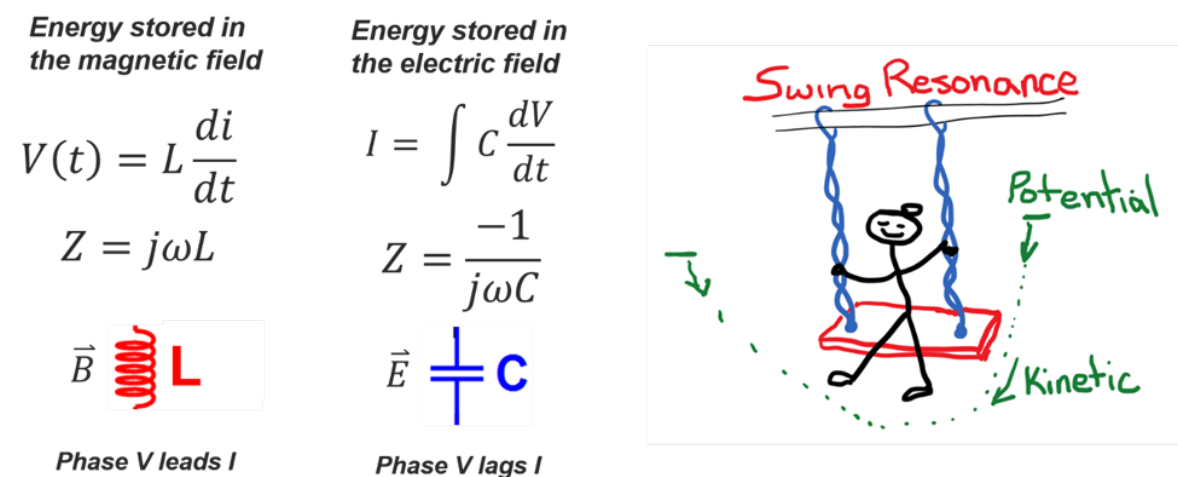

Figure 2. Parallel resonance of inductors and capacitors leads to ringing on the power rail
To avoid the resonances that lead to rogue waves on the power rail, it is important to understand how rogue waves occur (Figure 2). A common source of ringing on the power rail comes from the parallel resonance of an inductor (L) with a capacitor (C). The inductor stores energy in the magnetic field with the phase of the voltage leading the current. A capacitor stores energy in the electric field with the voltage phase lagging the current. Like a swing with energy oscillating between potential and kinetic, the current in the inductor and capacitor moves back and forth.